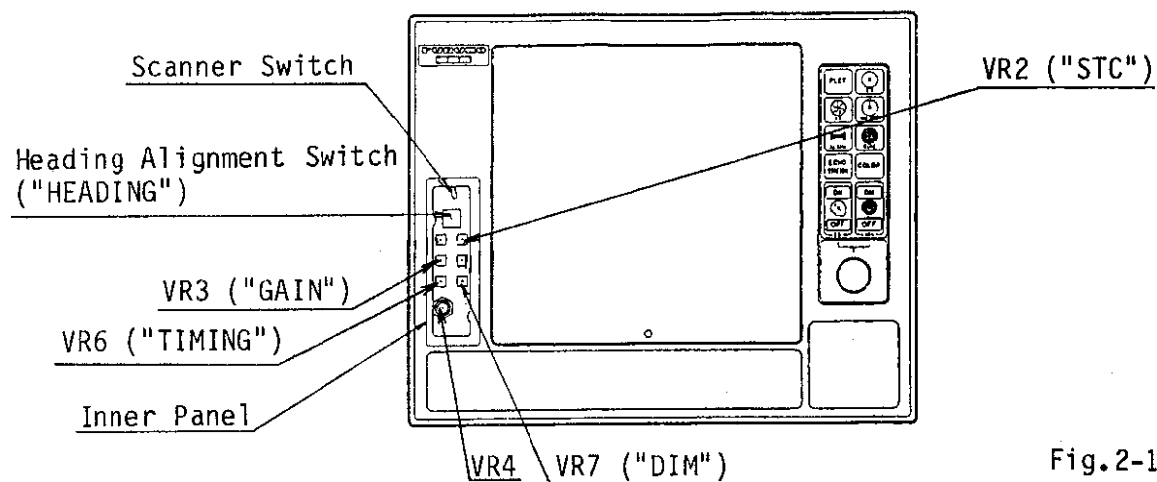
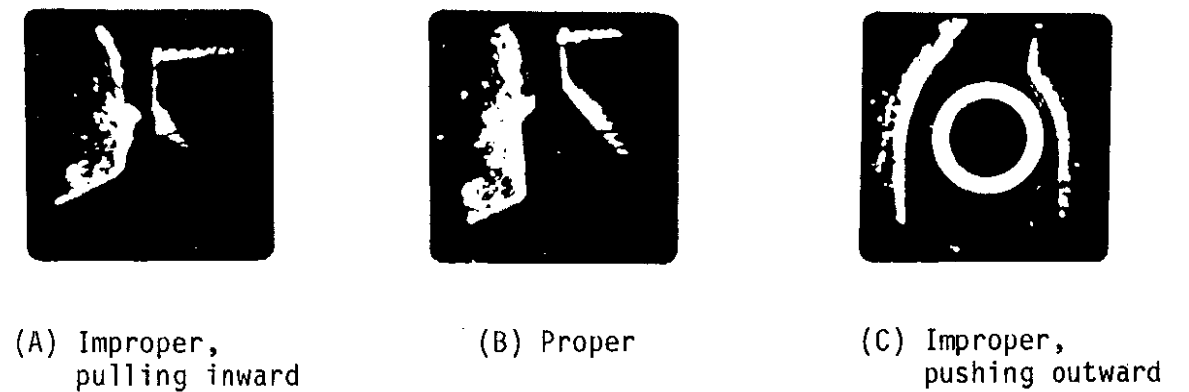
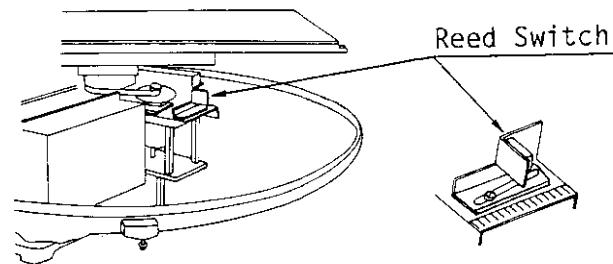

Fig.2-1
Fig.2-2 Sweep Timing Adjustment
Fig.2-4
2. Adjust potentiometer VR4 inside the inner panel (Fig.2-1), located at the left hand side of the display unit, so that a comparatively weak long range echo is discerned with maximum definition.
3. Adjust potentiometer VR6 (Fig.2-1) so that the straight object appears straight with no "pushing" or "pulling" near the center of the picture. See Fig.2-2.
6. The bearing of the target from the heading flash on the screen should be the same as that found on the navigational chart or the visual measurement. If there is a difference between them, adjust the Heading Alignment switch inside the inner panel in the display unit (Fig.2-1) to compensate for the difference (adjustable  $\pm 5^\circ$ ).
NOTE: When adjustment can not be completed by the Heading Alignment switch, turn off the scanner switch (Fig.2-1) to suspend antenna rotation and change the position of the reed switch in the radome (Fig.2-4), then readjust the Heading Alignment switch. This should be made if the scanner unit is installed with a large error in direction.
3. Adjust potentiometer VR3 inside the inner panel (Fig.2-1) so that a little background noise (white noise) appears on the screen.
4. Adjust potentiometer VR2 inside the inner panel (Fig.2-1) so that the effective range of the sea clutter is 4 to 7 n.m.
Note that the illumination of the touchpads/front panel can be adjusted by the illumination pot. (VR7, "DIM") in the inner panel. See Fig.2-1. Clockwise turning of VR7 will increase the illumination.